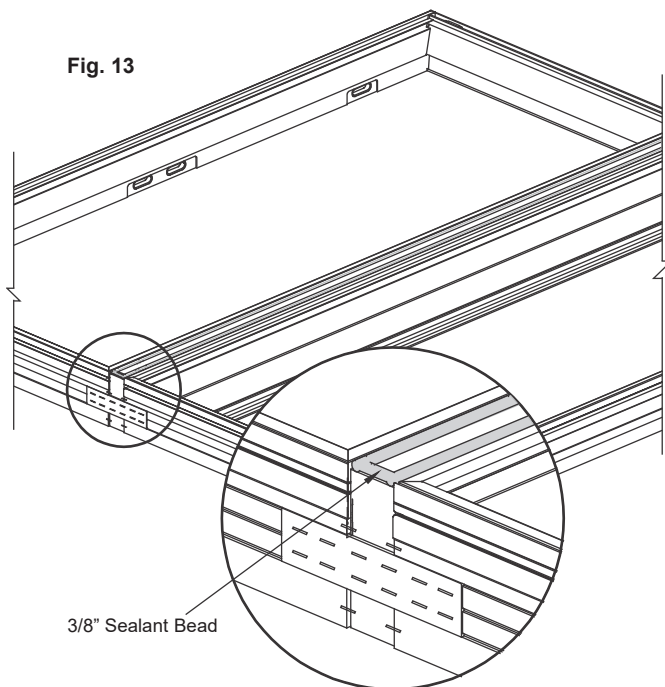

Fig. 13
- Apply two 3/8" continuous bead of sealant down the mull joint on the blocking near each accessory groove and across the top and bottom of the blocking. See Figure 13.